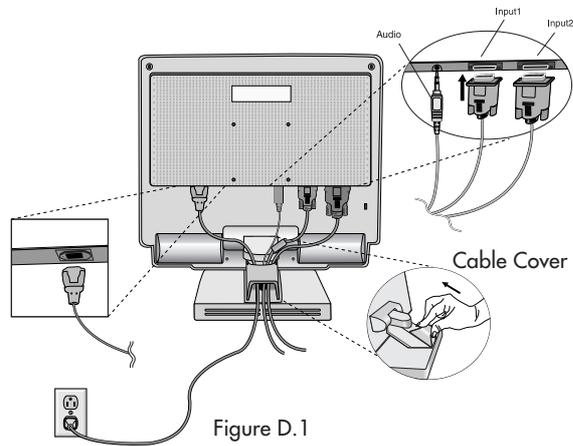

Figure D.1
4. Connect the 15-pin mini D-SUB of the video signal cable and DVI signal cable (not included) to the appropriate connector on the back of the monitor (**Figure D.1**).
5. Connect one end of the power cord to the DiamondPoint LCD Series monitor and the other end to the power outlet. Place the Audio Cable, Video Signal Cable and power cord under Cable cover (**Figure D.1**). Replace cable cover.